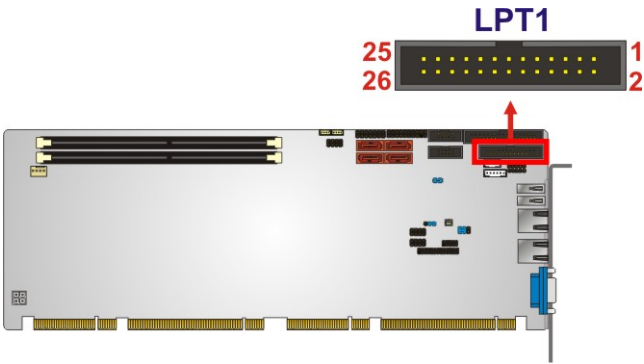

Figure 3-14: Parallel Port Connector Location
- CN Location: See Figure 3-14